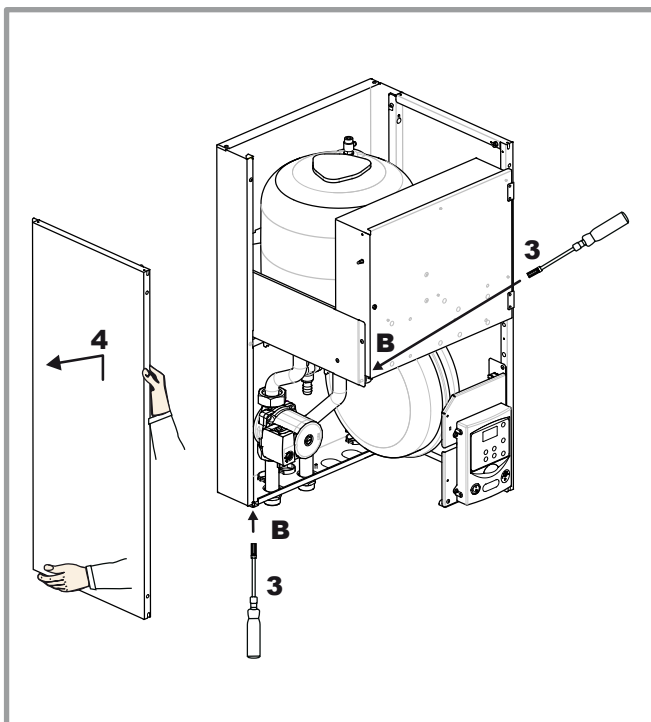

figure 17 - Removing the left-hand panel
- Remove the left-hand panel (2 screws **B**, figure 17).